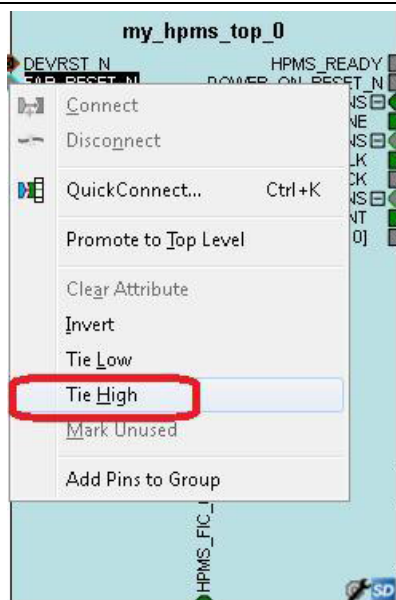

Figure 32 Tie Signal to the Top Using SmartDesign
6. Tie **FAB_RESET_N** to **high**. To tie a signal to high, select the signal, right-click and select **Tie High**, as shown in Figure 32.